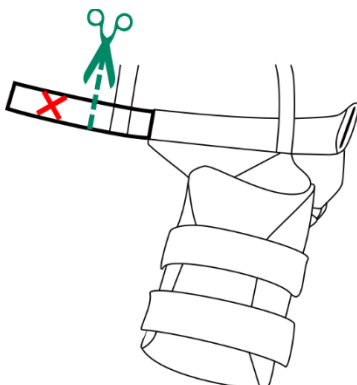

Figure 4
2. The upper arm cuff should fit loosely around the upper arm and should not obstruct blood flow, even when the biceps is contracted. Consider (thick) clothing as well. As a general guideline, add 2 cm to the measured circumference. Cut off the excess from the band (Fig. 4).